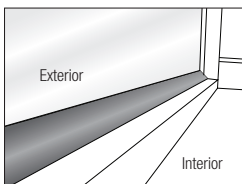

Figure 5
10. Move the tool forward along the 3M Profile while maintaining pressure to keep the sliding surfaces on the roller side of the tool against the window and frame. Go back and forth 2–4 times while maintaining this pressure for complete adhesive bond. (Figure 5)